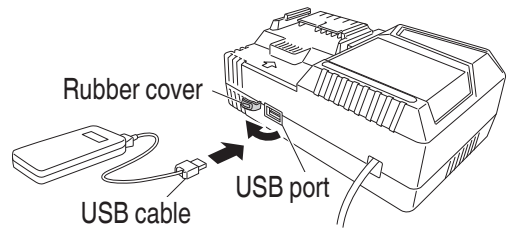

Fig. 13
- (2) Connect the USB cable. (**Fig. 13**)